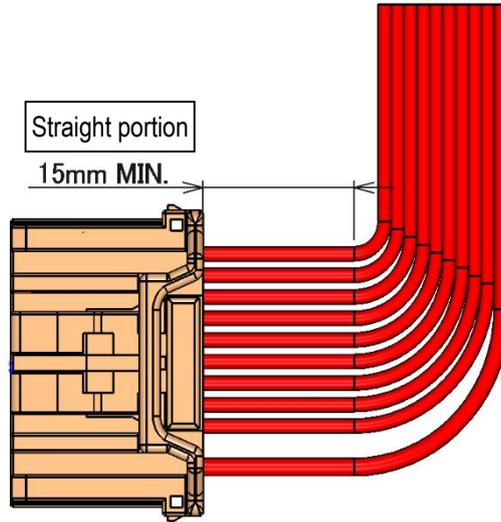

Fig 45. Arrangement of wires
- ① When arranging the wires horizontally, to avoid excessive stress to the sidewalls and female terminals, and the female terminal leaning in the core hole, please keep the wires straight (at least 15mm) from connector as shown in Fig45.
- ② Once straight portion is secured, arrange the wires with adequately large R.